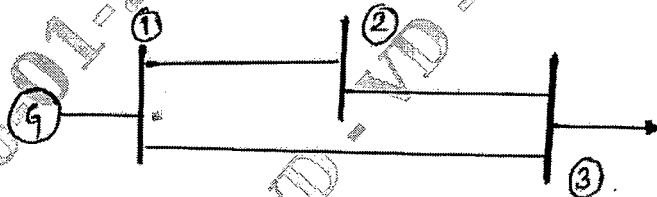

Fig.Q.5(b)
- b. Obtain the voltages at all buses for three bus system shown in Fig.Q.5(b) at the end of first iteration by N-R method. The data is given in Table Q.5(b) – 1 and Table Q.5(b) – 2.